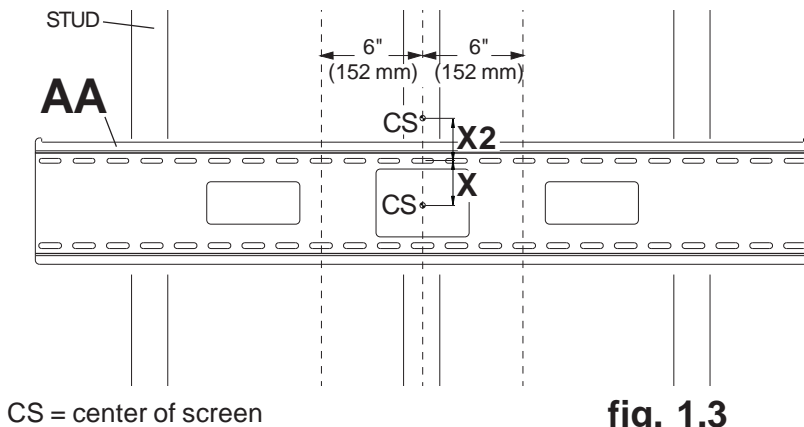
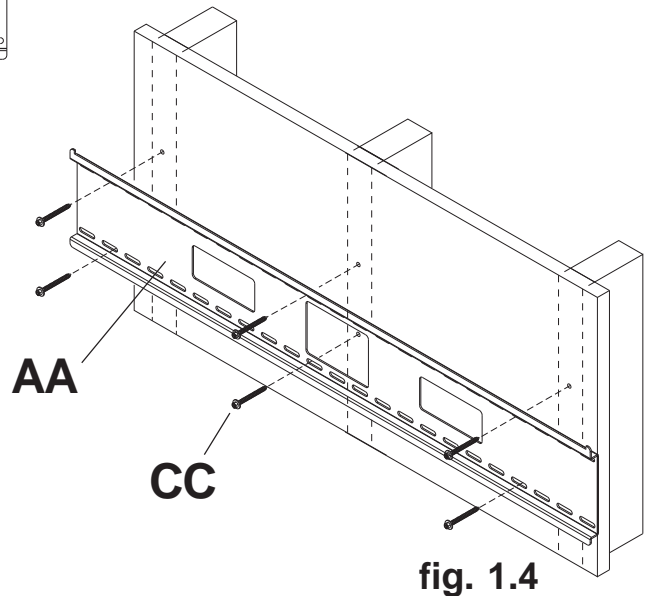

fig. 1.3
fig. 1.4
**1** Wall plate (**AA**) can be mounted to three studs that are 16" apart. Use a stud finder to locate the edges of the studs. Use of an edge-to-edge stud finder is highly recommended. Based on their edges, draw a vertical line down each stud's center. Place wall plate on wall as a template. The top mounting slots should be located above the desired screen center as indicated by dimension **X** in figure 1.3 and chart below. Level plate, and mark the center of the six mounting holes. Make sure that the mounting holes are on the stud centerlines. Drill six 5/32" (4 mm) dia. holes 2-1/2" (64 mm) deep. Make sure that the wall plate is level, secure it using six #14 x 2.5" wood screws (**CC**) as shown in figure 1.4.
- 1** Make sure that wall plate (**AA**) is level, use it as a template to mark six mounting holes. The top mounting slots should be located above the desired screen center as indicated by dimension **X** or **X2** in figure 1.3 and charts on pages 4. Drill six 1/4" (6 mm) dia. holes to a minimum depth of 2.5" (64 mm). Insert anchors (**DD**) in holes flush with wall as shown (right). Place wall plate over anchors and secure with #14 x 2.5" screws (**CC**). Level, then tighten all fasteners.